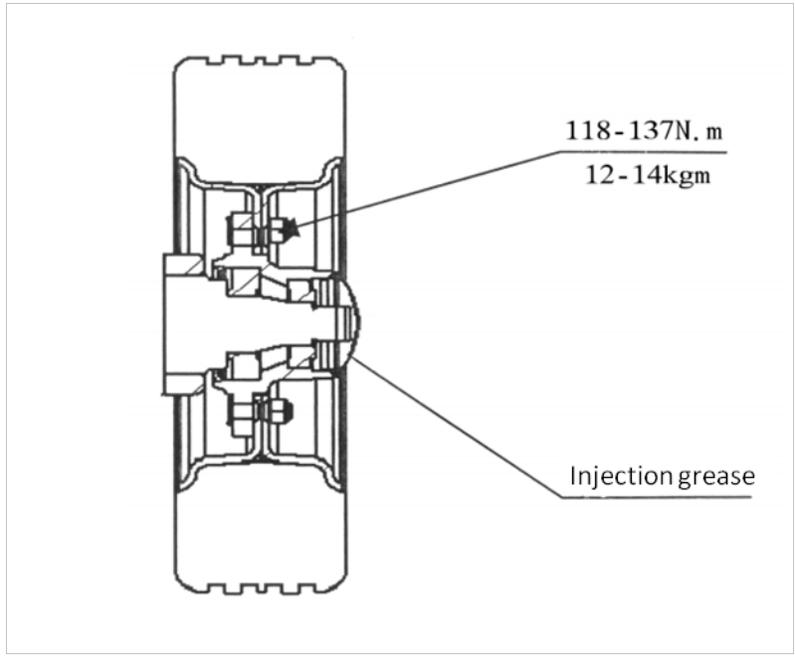

Figure 3-7 Injection grease & preload adjustment
- (1) As refer to figure 3-7, grease is applied to the inner cavity of the hub bearing and the hub cover, and some grease is applied to the lip of the oil seal;
- (2) Fix the bearing outer ring to the wheel hub and install the wheel hub on the steering knuckle shaft;
- (3) Install the flat gasket and tighten the groove nut, the torque is 206~235 N*m (21~24kgm) , loosen the groove nut, and then tighten the groove nut again, the torque is 9.8 N*m (1kgm) ;
- (4) Gently tap the hub with a wooden hammer and rotate it three to four turns to ensure it is not loose;
- (5) Tighten the slotted nut to align the slot with the split pin hole on the knuckle;
- (6) After gently tapping the hub with a wooden hammer, rotate the hub 3~4 turns by hand to ensure a stable rotation, and measure the driving torque of the wheel hub, which is 2.94~7.8N*m (0.3~0.8kgm) ;
- (7) When the driving torque is higher than the specified value, it can be returned 1/6 turns and measured again;
- (8) When the specified value of driving torque is achieved, the castle nut is locked with the split pin.